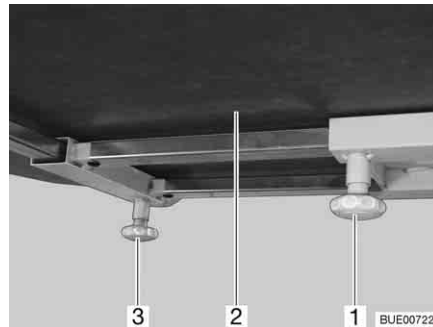

Fig. 100 Fixed table
- Loosen knurled screw (Fig. 100,1).
- Move table-top (Fig. 100,2) to the desired position.
- Loosen knurled screw (Fig. 100,3).